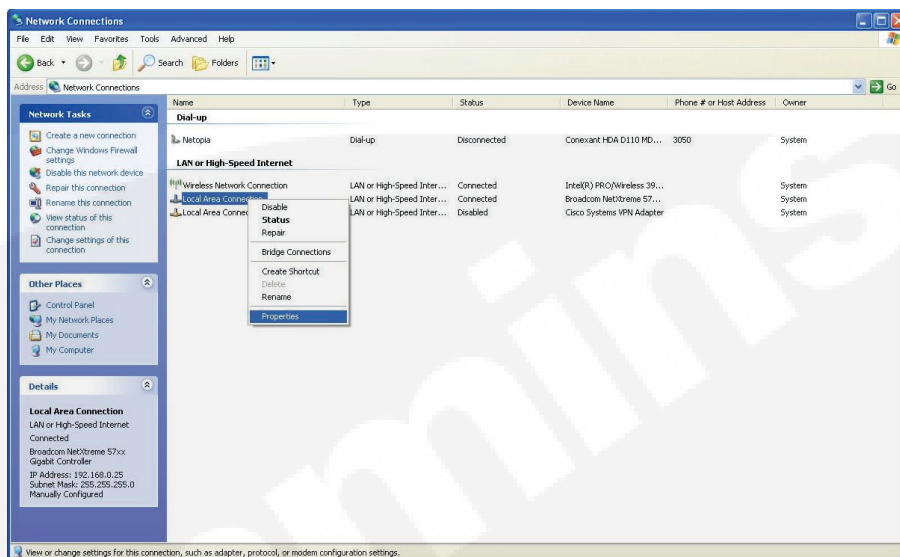

FIGURE A-7. LOCAL AREA NETWORK CONNECTION
3. From the Network Connections page, right click on your Local Area Network connection, and select Properties (see Figure A-7).